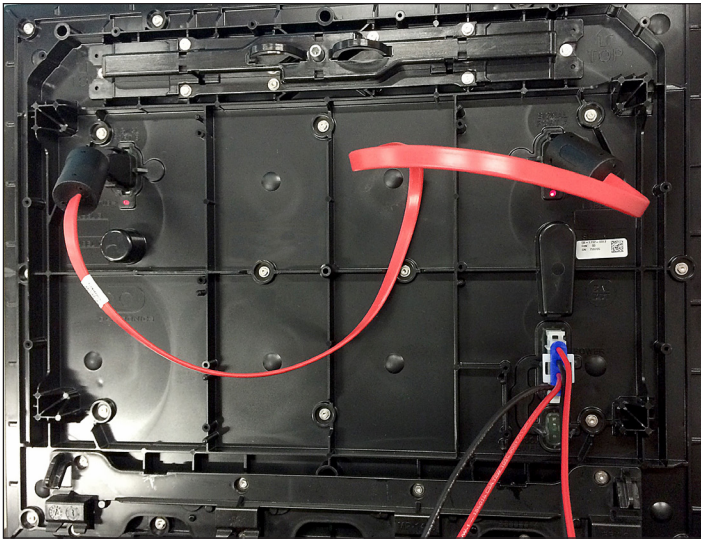

Figure 13: Module Self Test
1. Attach a signal cable to Port A and Port B on the module, as shown in **Figure 13**.